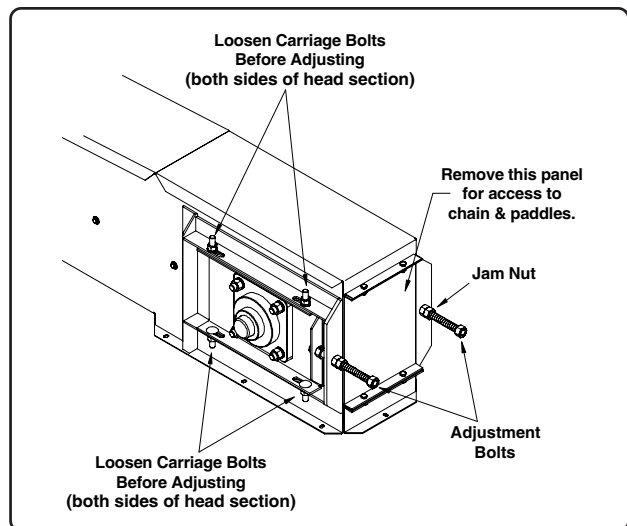

Fig. 22
2. Check chain tension. Grasp one of the paddles at the inlet end, and attempt to rotate it up towards the chain (See Fig. 22). Proper chain tension should allow only minimal movement of the paddle.
1. Loosen the four (4) carriage bolts on each of the take-up slides on the head section located at the discharge end of unit, See Fig. 22 (there will be a total of eight carriage bolts).